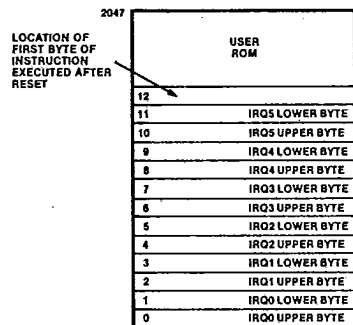

Figure 4. Program Memory Map
**Program Memory.** Figure 4 is a map of the 2K on-chip program ROM. Even though the architecture allows addresses from 0 to 4K, behavior of the device above program address 2047 (7FFH) is not defined. The first 12 bytes of program memory are reserved for the UPC interrupt vectors. For the Prototack and 64-pin